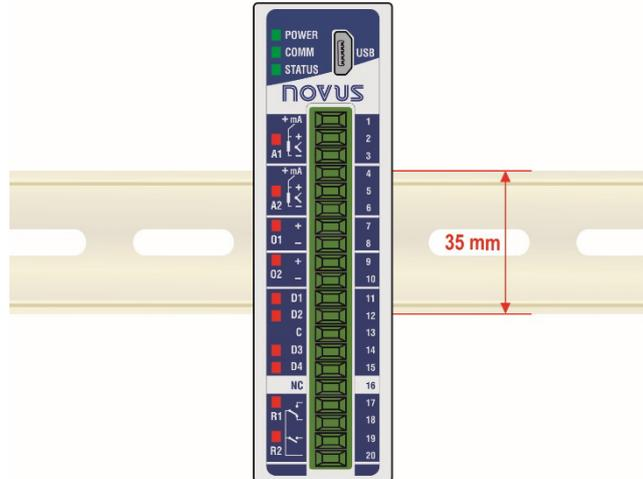

Figure 7 – Mechanical installation
**DigiRail Connect** is designed to have its housing fixed to a 35 mm DIN rail, as shown in **Figure 7**. The 35 mm DIN rail installation must be carried out after the device has been configured.